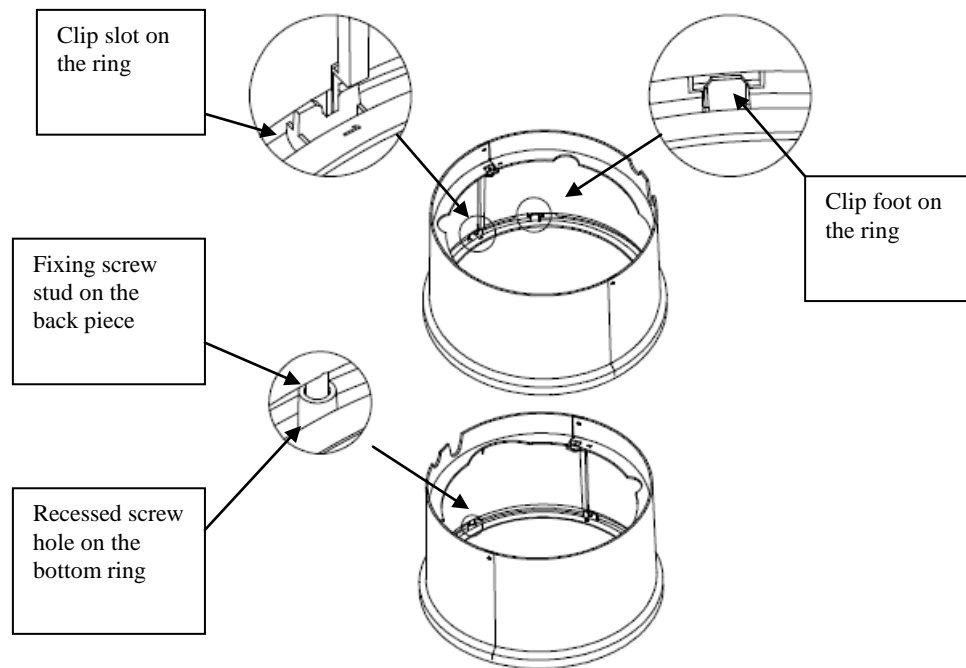

Fig 2b
- c) Be sure that both the clips on each side of the platform and the screw holes align correctly before inserting the clips in their respective slots on the stability ring as shown in Fig 2b.
- d) Once you have assembled both the platform and stability ring together, using the screws (2 short) provided firmly secure the stability ring to the platform as shown in Fig 2b and Fig 2c.